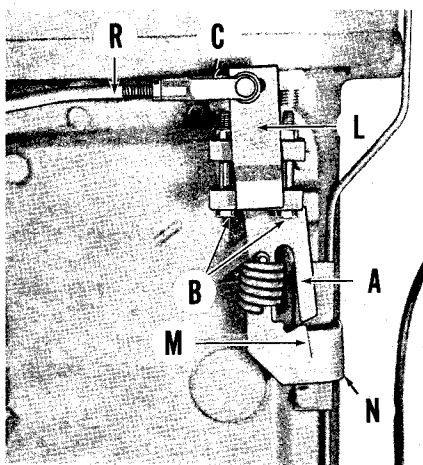

Fig. 151—View of Model 8700, 9700, TW-10, TW-20 and TW-30 parking brake linkage. Refer to text for adjustment.
To adjust parking brake linkage, jack up rear of tractor so one or both rear wheels may be rotated. Remove transmission access cover. Move shift lever to park position so that park pawl rests on top of a tooth on sliding coupler. Rotate a rear wheel if necessary to position pawl on coupler. Index mark (M—Fig. 151) should be aligned with inside edge of stop arm (A). If not, alternately loosen then retighten each adjusting bolt (B) until stop arm (A) is aligned with index mark (M). Move shift lever out of park position. Detach control rod (R) from lever (L) and turn clevis (C) to obtain maximum rod length but still be able to attach rod (R) to lever (L).